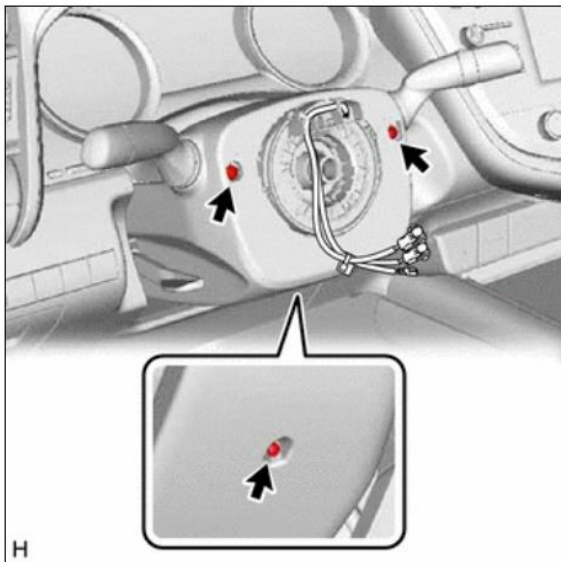

Figure 16a
- (a) Release the tilt and telescopic steering lever and fully extend and lower the steering column assembly. Figure 16a.